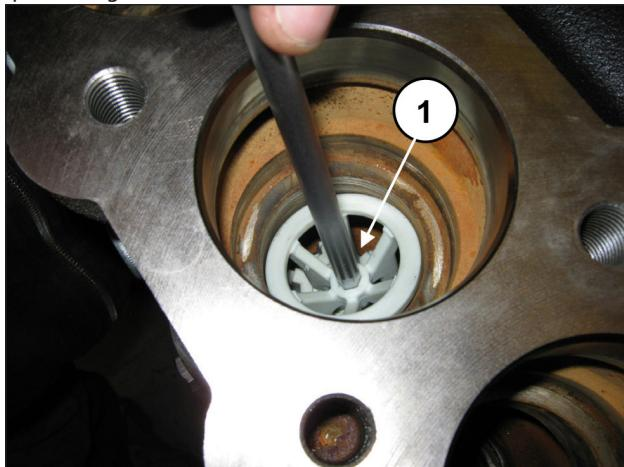

Fig. 102
Remove the valve guide spacer inserting an 8 mm hexagon spanner in the housing and lifting it to facilitate removal (pos. ①, Fig. 102).